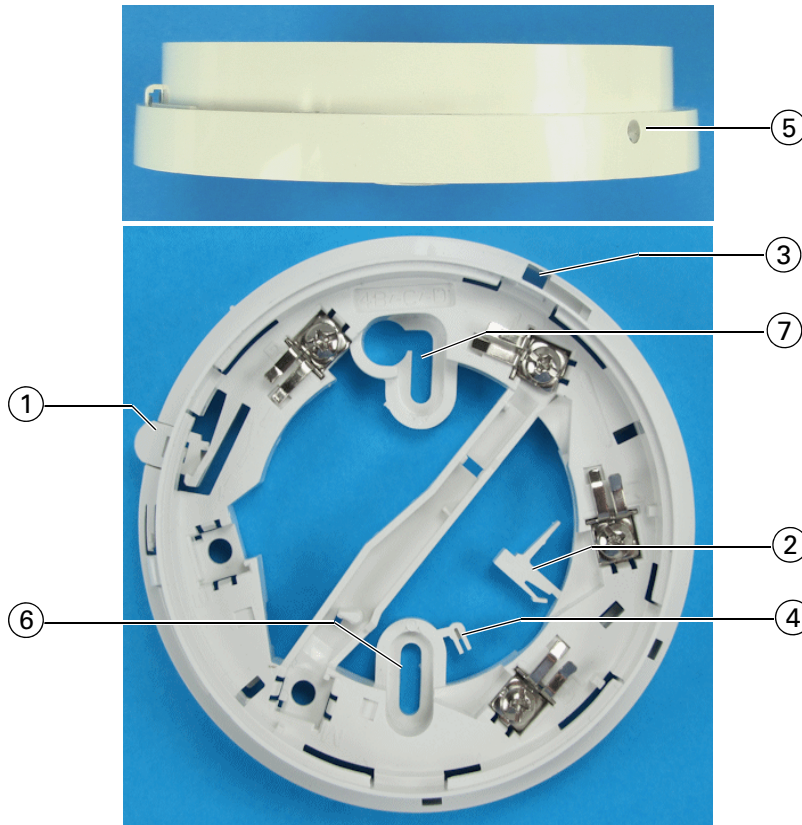

Fig. 1: 4B 4" base
Figure 1 shows a typical base in the series (the 4B). The numbered items are explained further throughout this guide.
- 1 Snap the pin free of the moulding (see Item 2 in Figure 1).
- 2 Insert the pin into its aperture on the rim of the base (see Item 3 in Figure 1). The pin should sit flush in its aperture, with the sprung tab upwards.
- 2 Depress and hold in the Temporary Park Plunger (see item 1 in Figure 1).
- 1 Snap the plug free of the moulding (see Item 4 in Figure 1).